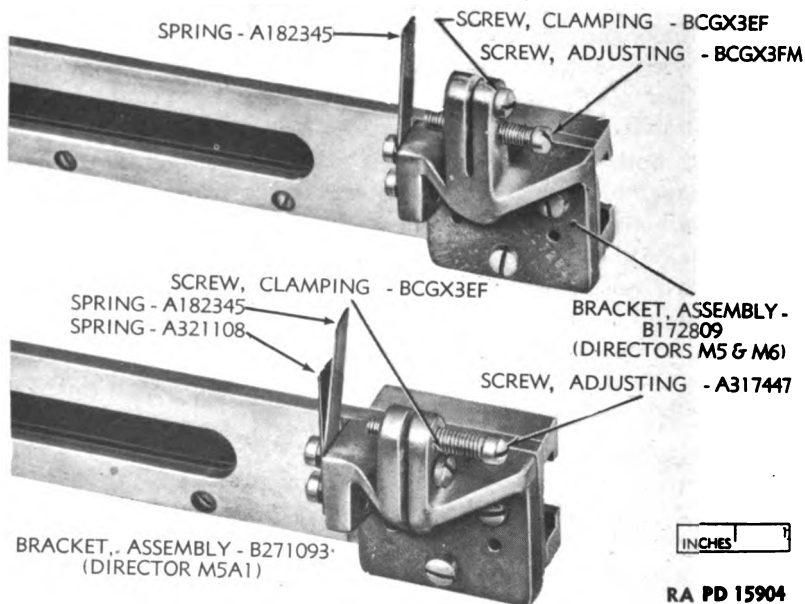

Figure 93 — Location of Screws for Adjusting Azimuth Creep
b. Loosen the clamping screw in the top of the bracket assembly (fig. 93), and turn the adjusting screw until the fine dial does not move more than 1 degree in 1 minute. See that the flat spring on the bracket assembly holds the ball carriage against the adjusting screw, and will return it if displaced slightly. Tighten the clamping screw.